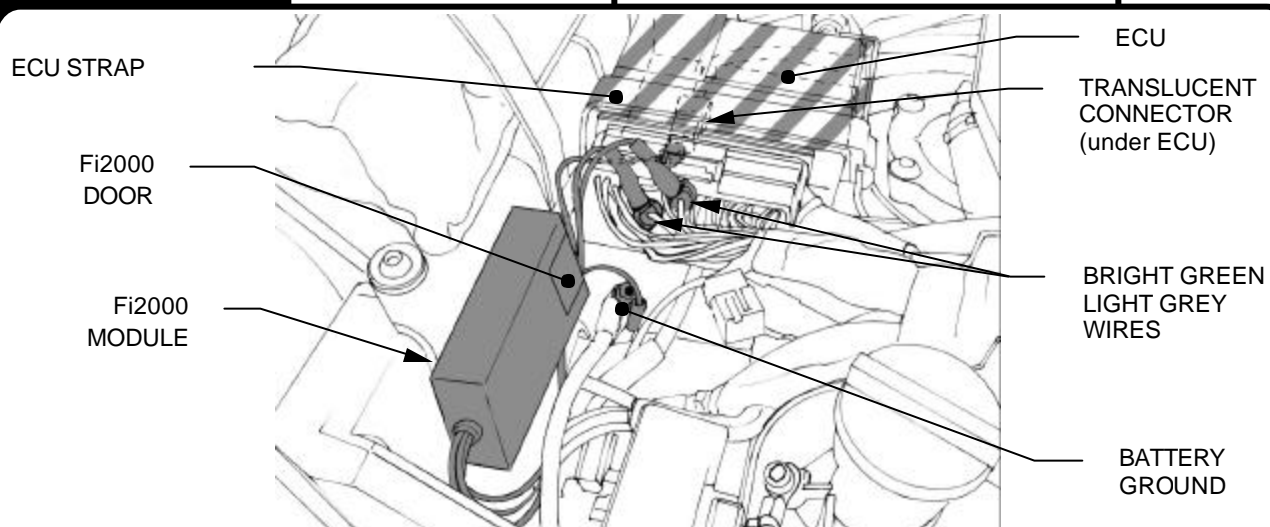

FIGURE 1
4. Route the black wire from the Cobra module to the negative post of the battery as shown in figure 1.
6. Find the BRIGHT GREEN and LIGHT GREY wires coming out of the ECU and attach a t-tap connector to each of these wires. Now connect the corresponding colored wires from the Cobra module to each of the t-tap connectors. See figure 1. **Note:** Make sure not to attach the t-tap connectors closer than 1" to the stock ECU connector.
7. Remove the backing from the Velcro and attach the Cobra module vertically on the frame cross member over the starter solenoid as shown in figure 1.
8. Before re-installing the splash shield and seat, verify your connections. Remove the door from the Fi2000 box to expose the LED's. Verify the wire connections by (1) turning the ignition on, prior to starting, and see if all three LED's are on steady. If you have no light, either your ground connection (BLACK wire) is not solid or, (more likely) your BLUE wire connection is incorrect. You have either tapped on the wrong wire or the tap has not made contact. (2) After achieving a steady light from all three LED's, start the motorcycle and let it idle, the green light should now be the only LED on. If all three LED's are still on after start up, your BRIGHT GREEN stripe wire connection is incorrect; if all three LED's are flashing, your LIGHT GREY stripe wire connection is wrong. Again verify correct color and tap contact. Reattach the door when finished. **Note:** Make sure the ignition is turn off before changing any connection.